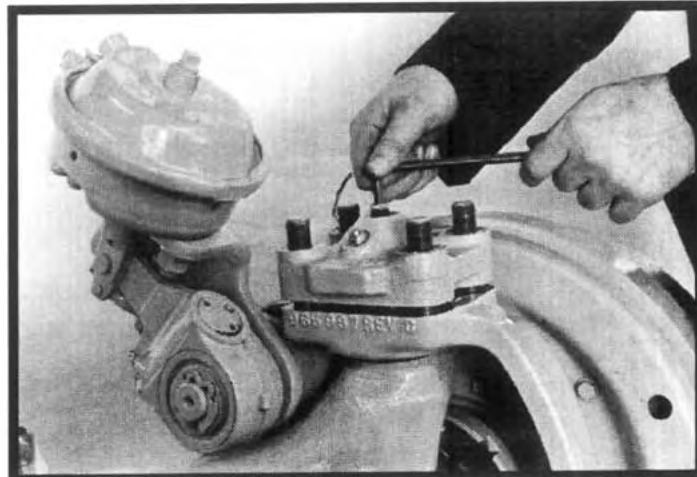

Figure 13
3. Loosen the upper kingpin adjusting screw jam nut and back out the adjusting screw until the spindle yoke stops moving downward and is resting on the suspension yoke. Remove the four 3/4" steering arm or upper kingpin cap locknuts, and pull the arm or cap up and off its mounting studs. If difficulty is encountered, turn the adjusting screw back in to force the arm or cap off the studs. See Figure 13.
3. Loosen the upper kingpin adjusting screw jam nut and back out the adjusting screw until the spindle yoke stops moving downward and is resting on the suspension yoke. Remove the four 3/4" steering arm or upper kingpin cap locknuts, and pull the arm or cap up off its mounting studs. If difficulty is encountered, turn the adjusting screw back in to force the arm or cap off the studs. See Figure 13.